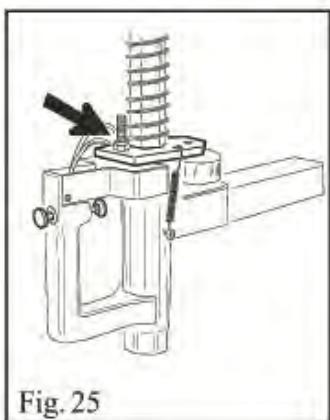

Fig. 25
- F If necessary to adjust the vertical arm locking plate because the tool does not lock or it does not rise from the rim of 2mm necessary for working, adjust nuts as shown in Fig. 25.